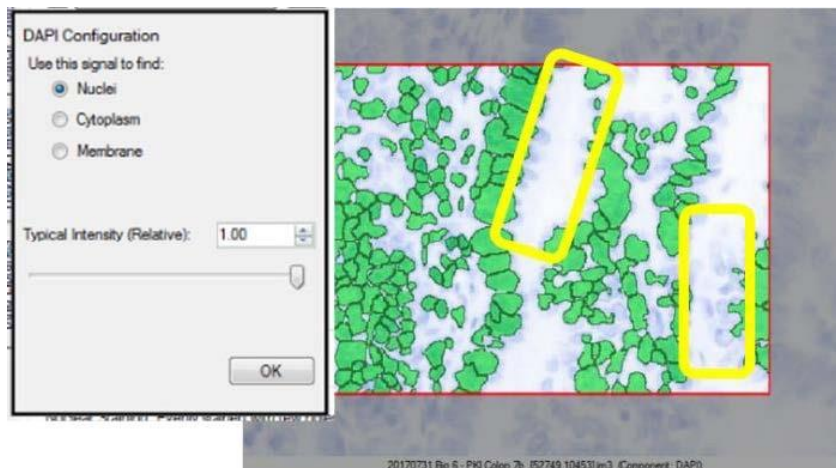

FIGURE G.4. Slider Right - Higher Value.
- b. Moving the slider right (higher value) collects less signal from faint nuclei. (See Figure G.4.)